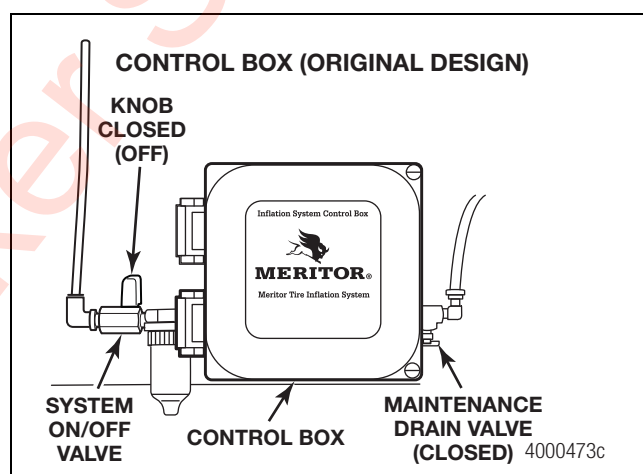
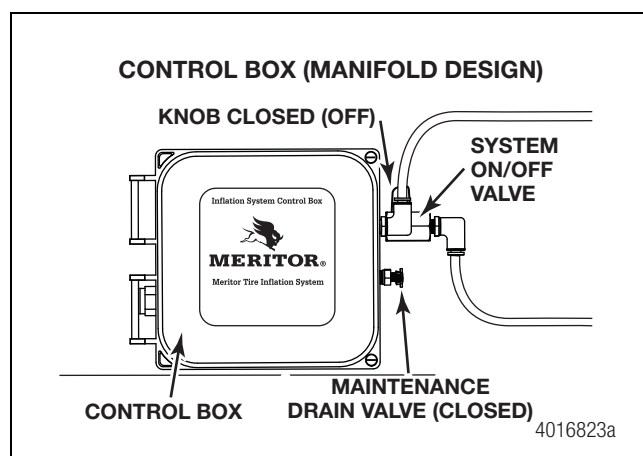

Figure 5.8
Figure 5.9
1. Turn the supply line ball valve to the closed position at the control box to stop air delivery to the system. When the supply line ball valve is closed, the knob is perpendicular to the valve body. Figure 5.8 and Figure 5.9.
2. Open the drain petcock in order to drain the air from the system. Figure 5.8.